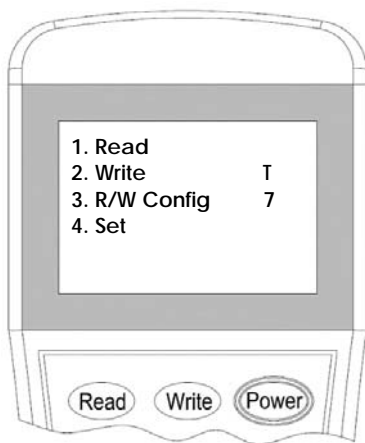

Figure 10
2. Switch-on the programmer, then press button **"3"** to enter to **Configuration mode** (Figure 10).